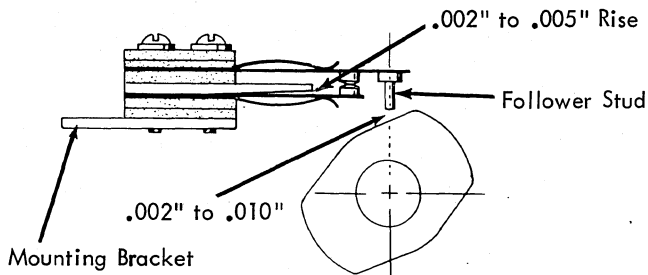

FIGURE 40. C-7 Contact
7. Shift Contact Assembly C-7 (Fig. 40) -
- a. C-7 Contact Rise - Form the N/C contact support so that the O/P lifts the N/C contact strap $.002''$ to $.005''$ (Fig. 40).